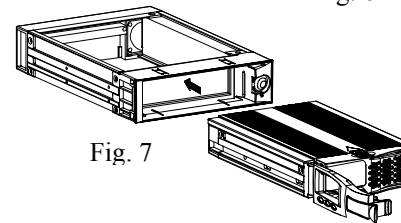

Fig. 7
- Slide the carrier body back into the cartridge frame. (Fig.7)